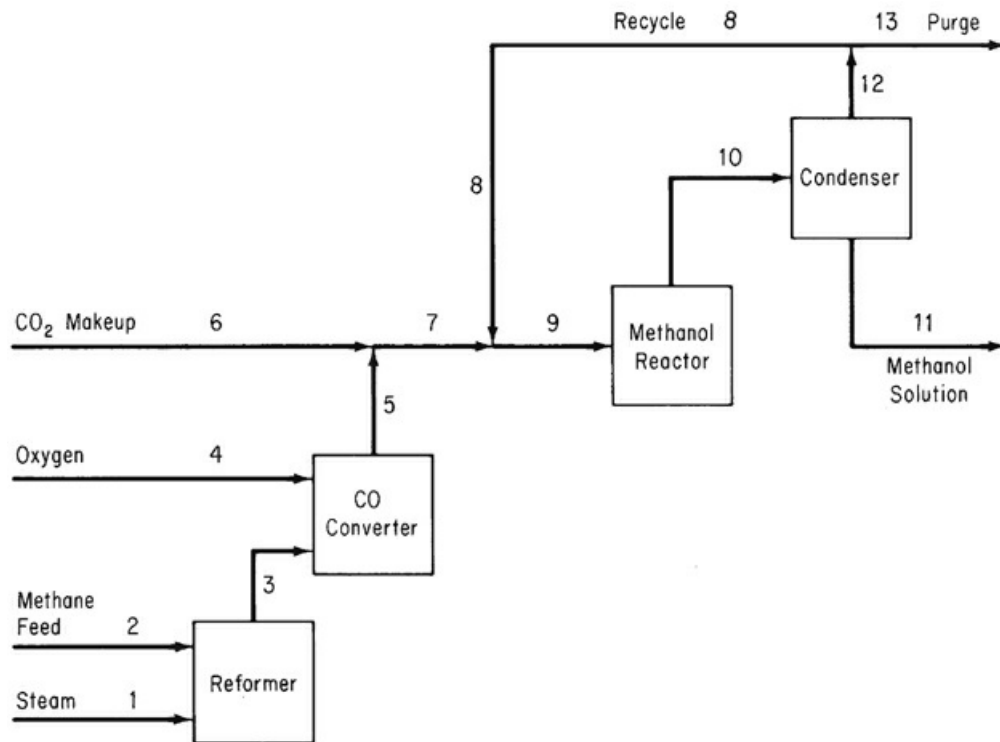

Figure P5.4.3
****5.4.3 A process for methanol synthesis is shown in Figure P5.4.3. The pertinent chemical reactions involved are
Because the methane feed contains 1% nitrogen as an impurity, a portion of the recycle stream must be purged as shown in Figure P5.4.3 to prevent the accumulation of nitrogen in the system. The purge stream analyzes 5% nitrogen.